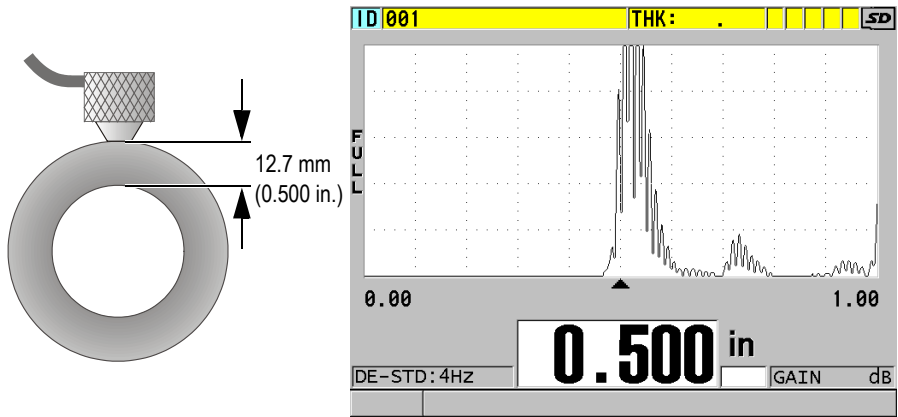

Figure 5-9 Coupling dual element transducer and reading the measured thickness
- Using moderate to firm pressure, couple the tip of the transducer to the surface of the test material, and keep the transducer as flat as possible on the material surface (see Figure 5-9 on page 82).